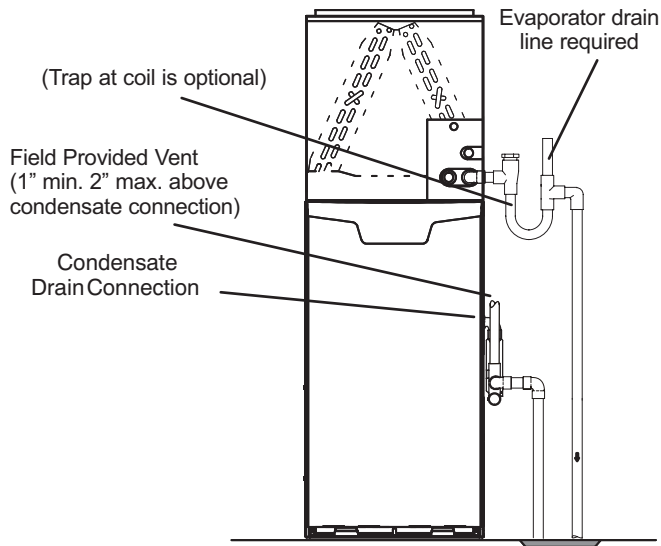
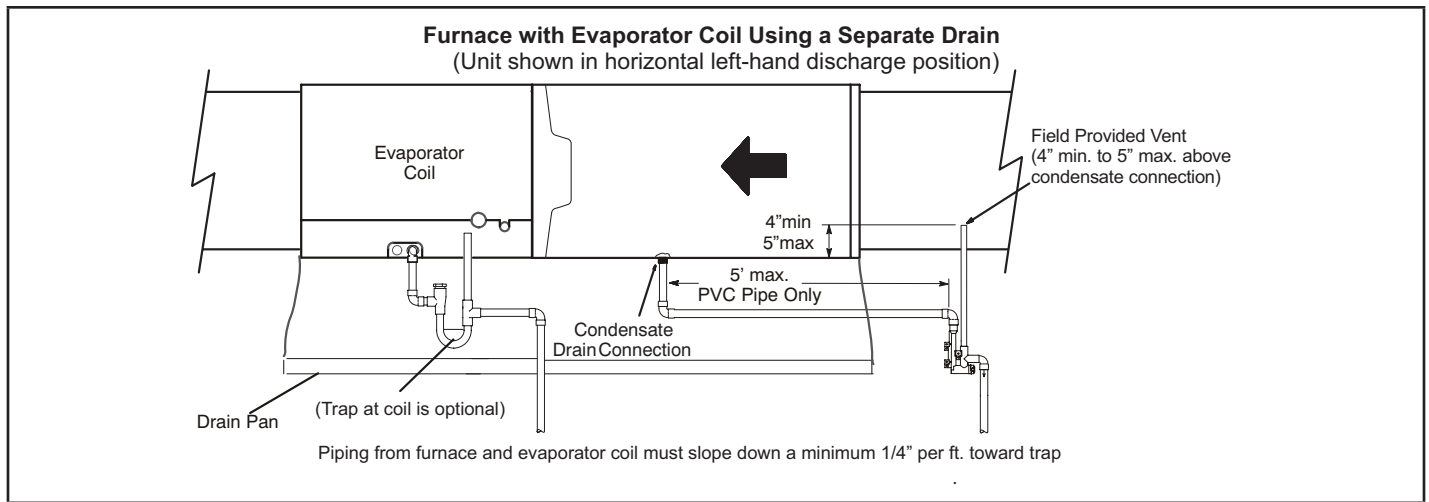
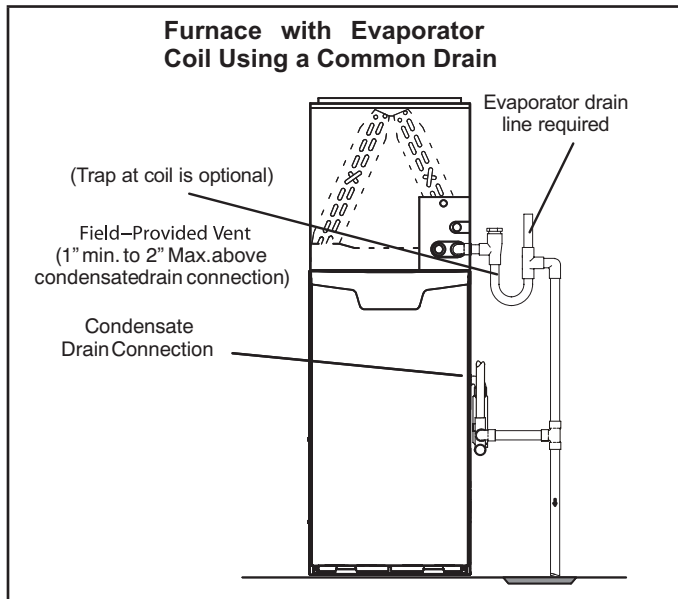

FIGURE 44
FIGURE 46
FIGURE 47
- 5 - FIGURE 44 and FIGURE 46 show the furnace and evaporator coil using a separate drain. If necessary the condensate line from the furnace and evaporator coil can drain together. See FIGURE 47 and FIGURE 48.
Upflow furnace (FIGURE 47) - In upflow furnace applications the field provided vent must be a minimum 1" to a maximum 2" length above the condensate drain outlet connection. Any length above 2" may result in a flooded heat exchanger if the combined primary drain line were to become restricted.